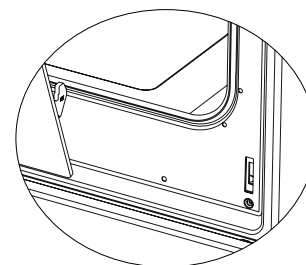

Figure 16.2
4. To remove the oven door, pull it upwards by holding it with both hands when close to the closed position as shown in figure 16.2.